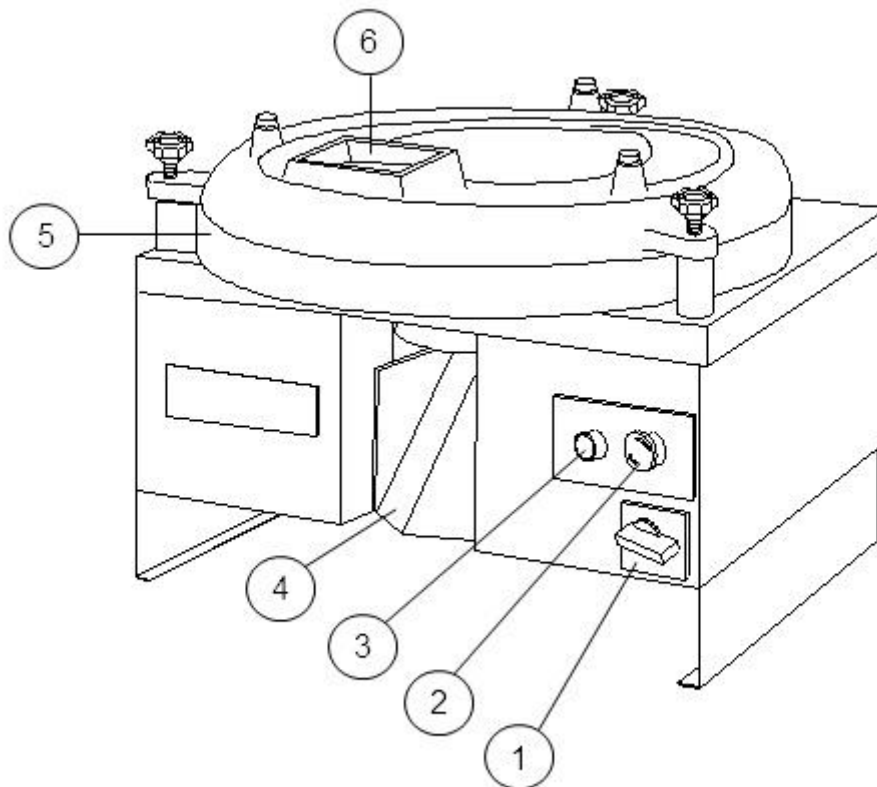

Fig. 5.1. Moulder controls
1. Turn the machine on by turning the general mains switch (Fig. 5.1. n°1), to the "1" position
2. Insert one piece of dough at a time into the opening (Fig. 5.1. n°6). After a few seconds it will tumble down the chute (Fig. 5.1. n°4).
**N.B.: check that** the spiral snail head (Fig. 5.1. num 5) is of the right size to work the weight chosen, especially if: